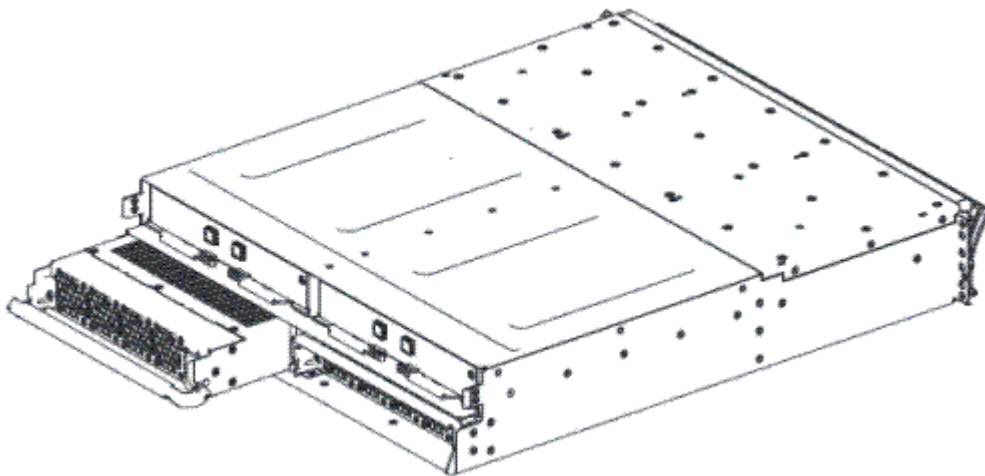

Figure 103. Removing the power supply unit from the left side of the expansion enclosure
5. Using the handle, gently slide the power supply out of the enclosure, as shown in Figure 103 on page 160.